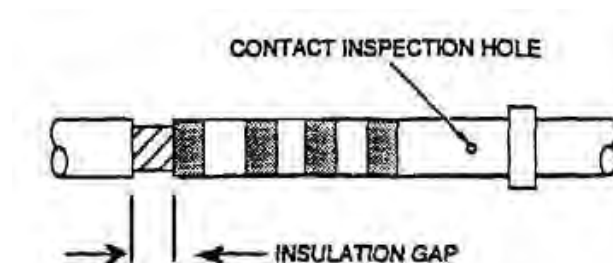

Figure 18
- (18) Insert stripped wire into contact conductor barrel. Ensure all wire strands are inside contact conductor barrel and the conductor is completely visible in contact inspection hole (Figure 18).